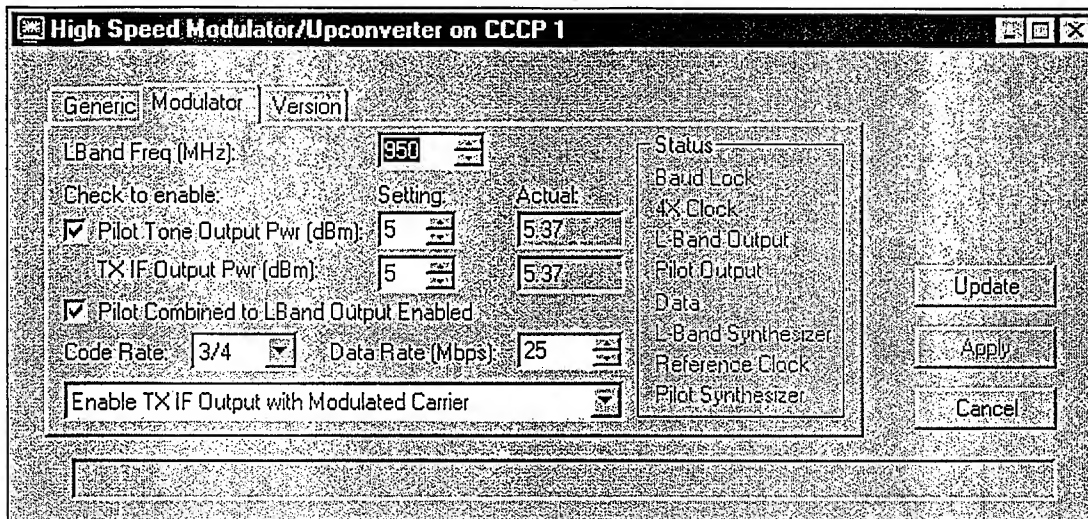

Figure 14. HSM Window Modulator Tab
4. If the Channel Group is the Primary Channel Group, enable Pilot Combined to L-Band Output, (see Figure 14).